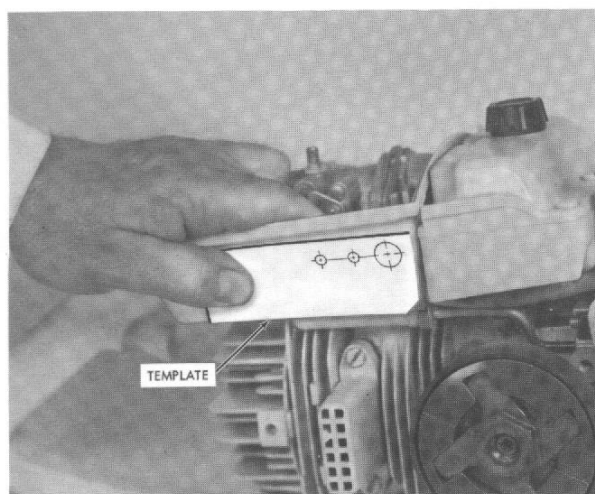

Figure 7. Airbox Modification
- Kit), and place it on the right side of the airbox as shown in Figure 7. Center-punch the three holes and remove the Template.